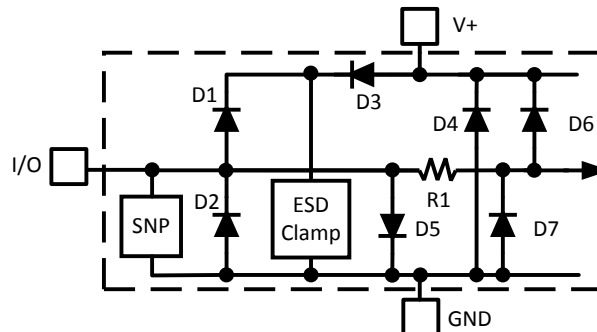

Figure 4. ESD Protection Input Structure
- (1) Absolute Maximum Ratings indicate limits beyond which damage to the device may occur. Operating Ratings indicate conditions for which the device is functional, but do not ensure performance limits. For ensured specifications and test conditions, see the Electrical Characteristics. The ensured specifications apply only for the test conditions listed. Some performance characteristics may degrade when the device is not operated under the listed test conditions.
- (2) All voltages are measured with respect to GND, unless otherwise noted.
- (3) When the input voltage (V_{IN}) at any pin exceeds the power supplies ($V_{IN} < GND$ or $V_{IN} > V+$), the current at that pin should be limited to 5 mA. Parasitic components and/or ESD protection circuitry for the LM63's pins are shown in Figure 4 and Table 1. The nominal breakdown voltage of D3 is 6.5 V. Care should be taken not to forward bias the parasitic diode, D1, present on pins D+ and D-. Doing so by more than 50 mV may corrupt temperature measurements. An "X" means it exists in the circuit.
- (4) Thermal resistance junction-to-ambient when attached to a printed circuit board with 2 oz. foil is 168°C/W.
- (5) Human body model, 100 pF discharged through a 1.5 kΩ resistor. Machine model, 200 pF discharged directly into each pin. See Figure 4 and Table 1 for the ESD Protection Input Structure.
- (6) See the URL <http://www.ti.com/packaging> for other recommendations and methods of soldering surface mount devices.